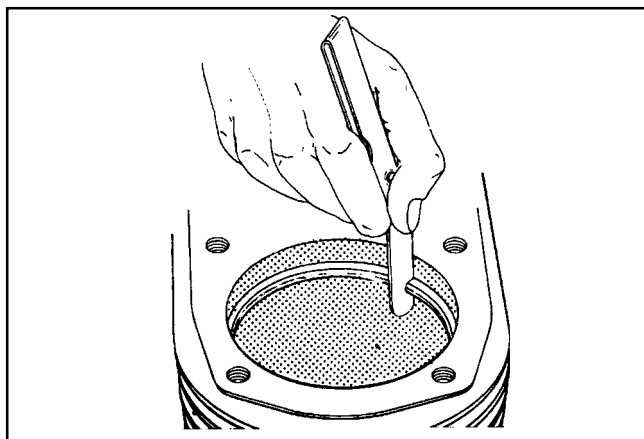

Figure 10-9. Measuring Piston Ring End Gap.
4. Before installing the new rings on the piston, place the top two rings, each in turn, in its running area in the cylinder bore and check the end gap. (see Figure 10-9.) Compare the ring gap to the specifications listed in Section 1.